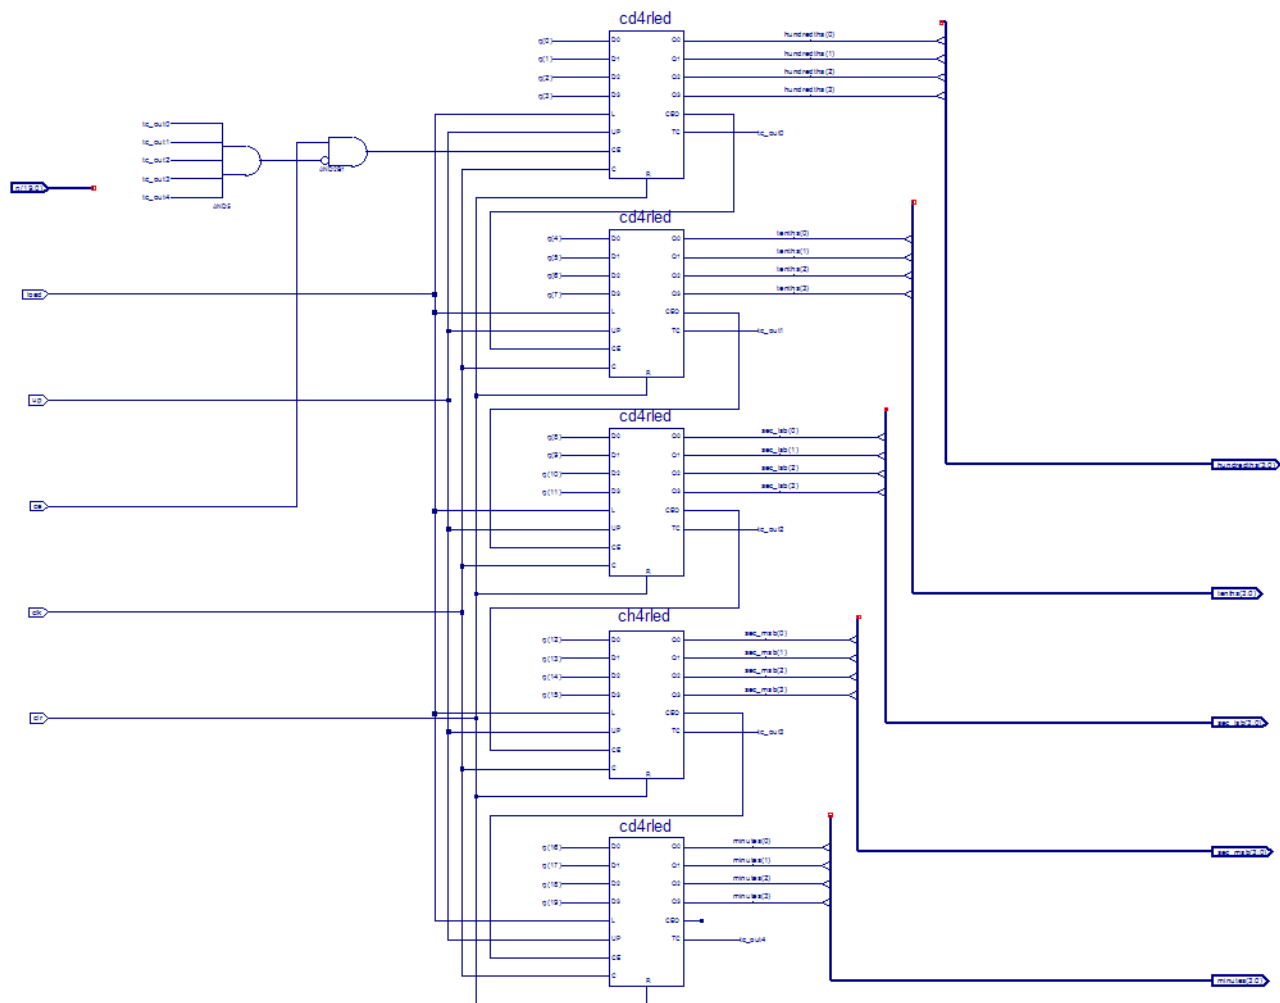

Figure 3-13: Completed time\_cnt Schematic
**Note:** It is the name of the wire that makes the electrical connection between the bus and the wire (for example, sec\_msb(2) connects to the third bit of sec(3:0)). The bus tap figure is for visual purposes only. The following section shows additional electrical connections by name association.
8. Compare your time\_cnt schematic with Figure 3-13 to ensure that all connections are made properly.